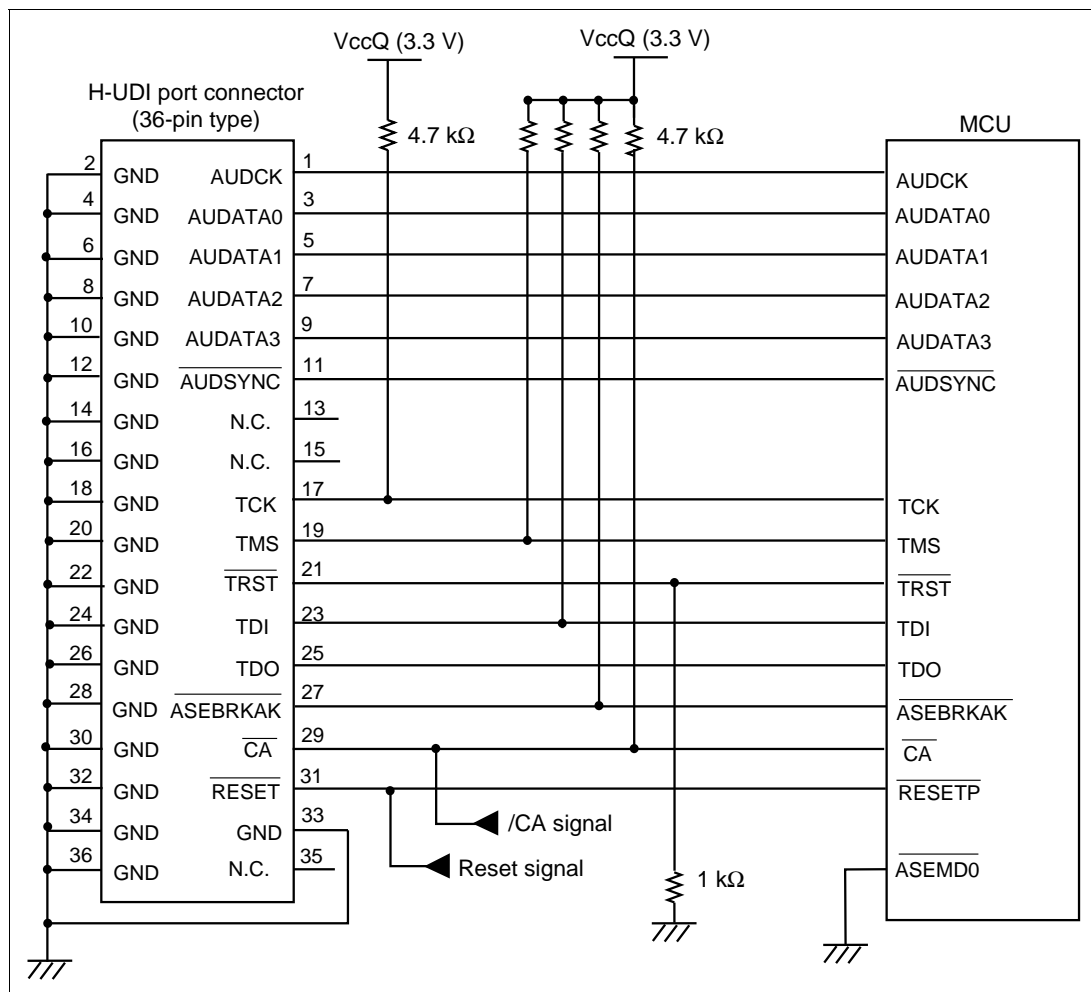

Figure 4.1 Recommended Circuit for Connection between the H-UDI Port Connector and MCU (36-Pin Type)
Figure 4.1 shows a recommended circuit for connection between the H-UDI port connector (36 pins) and the MCU.
- (1) When the emulator is used: /ASEMD0 = low (ASE mode)
- (2) When the emulator is not used: /ASEMD0 = high (normal mode)
8. The resistance values shown in figure 4.1 are recommended.